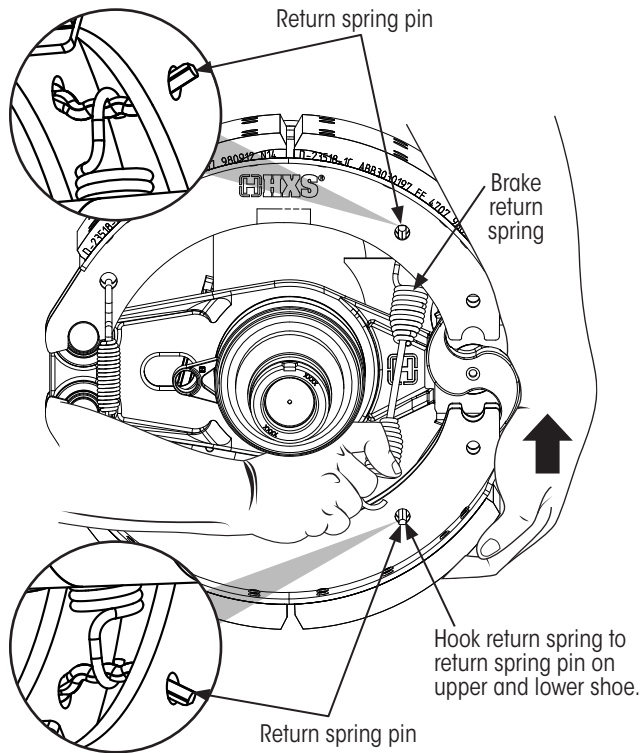

Figure 45: Attaching new brake return spring
5. If necessary, **install** a return spring pin (see Figure 45) in the replacement upper and lower brake shoes.
10. Lift up on the lower brake shoe and hook the brake return spring to the upper and lower return spring pins (Figure 45).
2. If necessary, **install** a return spring pin (see Figure 45 on page 31) in the replacement upper and lower brake shoes.